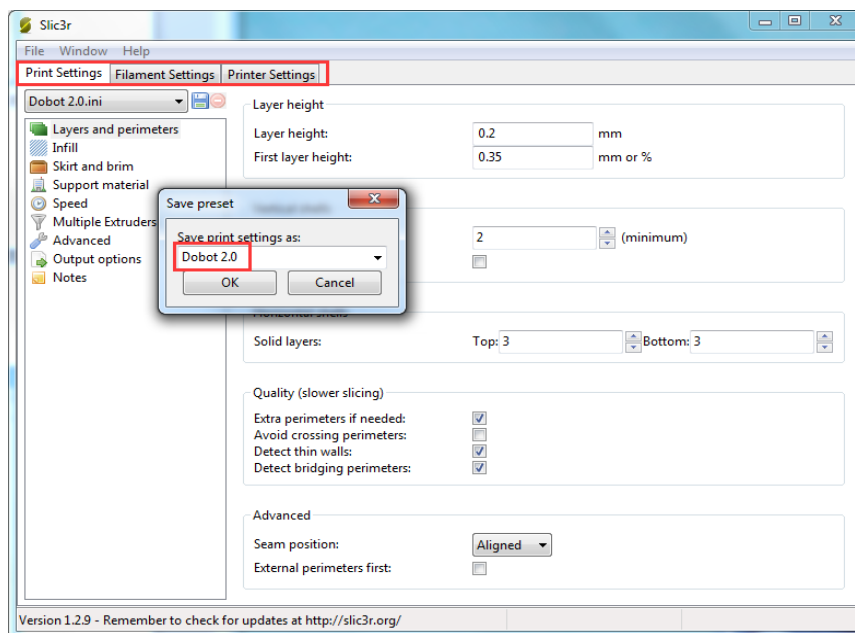

Figure 5.101 Save configuration file
3. Save the Printing Settings, Filament Settings and Printer Settings tabs respectively after importing configuration sample, as shown in Figure 5.101.